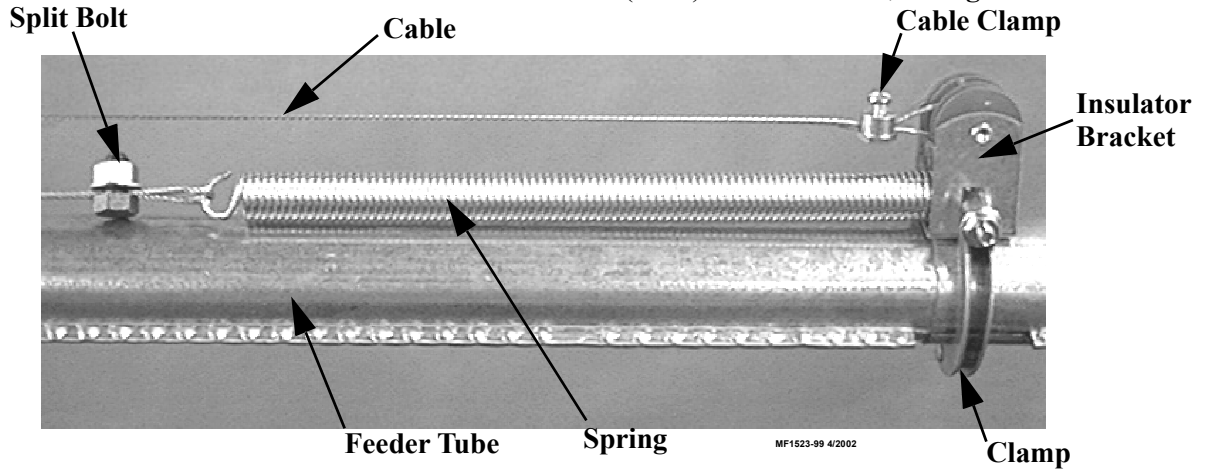

Figure 34. Spring and Insulator Bracket Installation
- Anchor spring to clamp on each side of the winch, see **figure 34**. Attach the Tube Clamp/Spring assemblies to the feeder line tube at a maximum distance of 100 feet (30 m) from the winch, see **figure 32**.
- Loop the cable around the end of the Spring and secure with a split bolt cable clamp, see **figure 34**.